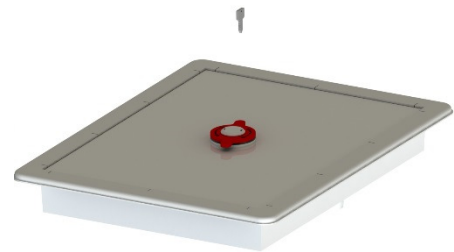

Figure 12
- 2) Use the COVANA key inside the slot located in the white centre part of the handle. (Figure 12)